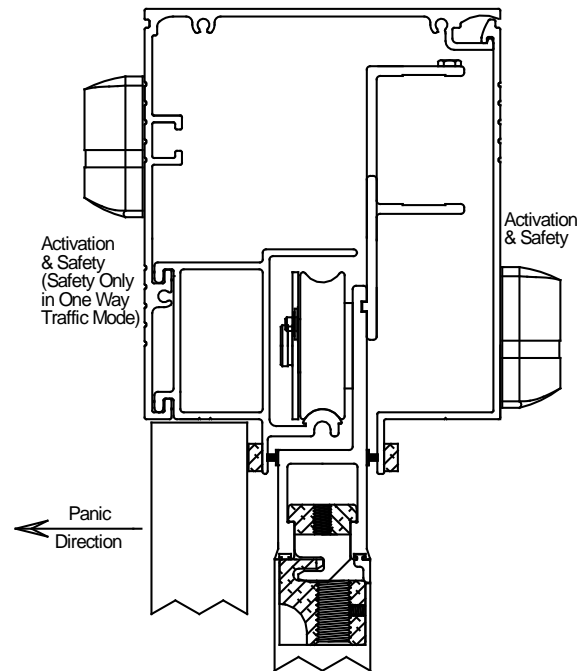

Figure 36
3. Use the screws provided inside the Accusensor (in the screw holes) to mount the Accusensor in the pre-drilled holes. (See Figure 36)